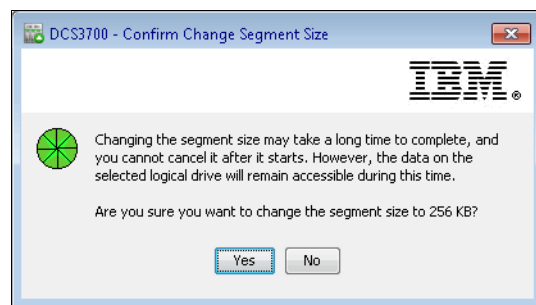

Figure 8-50 Segment Size warning
2. If you select a new segment size, the warning window that is shown in Figure 8-50 opens.